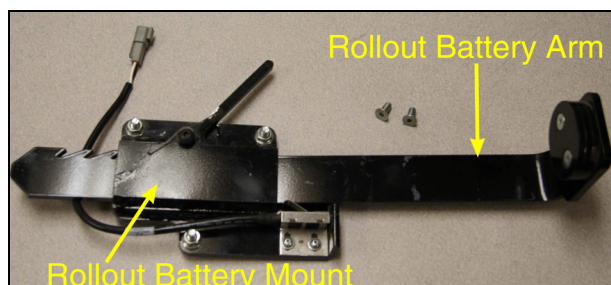

Figure 4-4 Rollout Battery Arm Bar
6. Install the rollout battery arm bar, or the truck will not operate. See Figure 4-4.